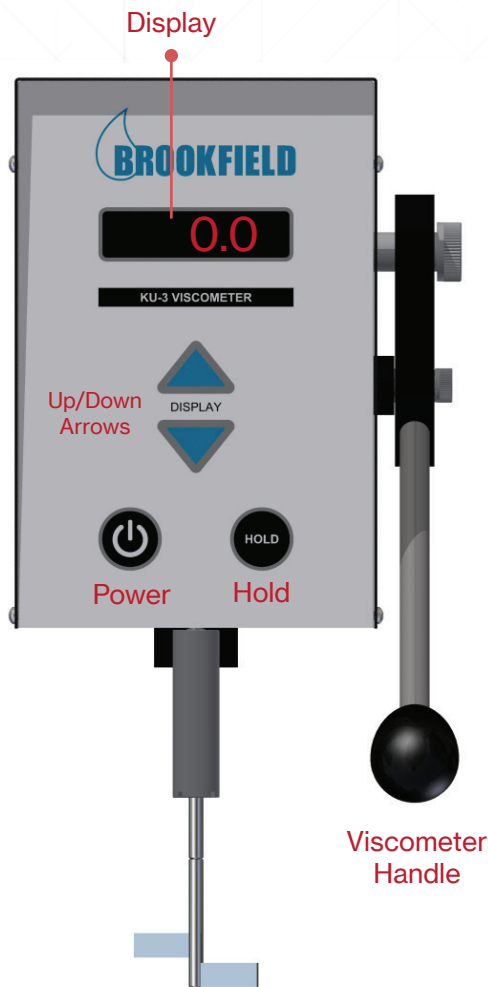

Figure 2
- Press the KU-3 power key (see Figure 2).
- Press the HOLD key (see Fig. 2). The up/down arrow keys may be used to change the display.